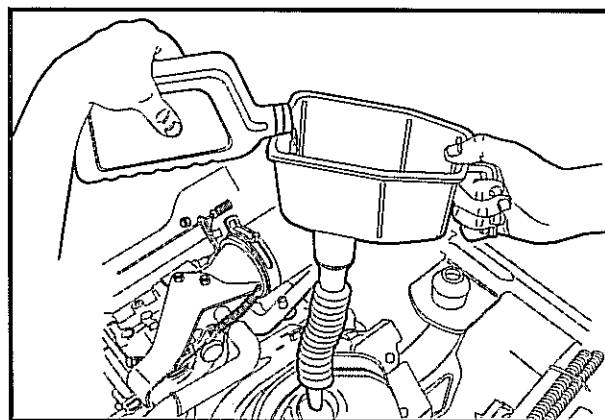
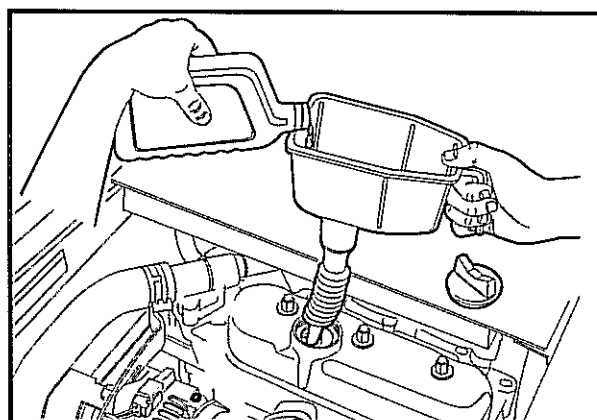
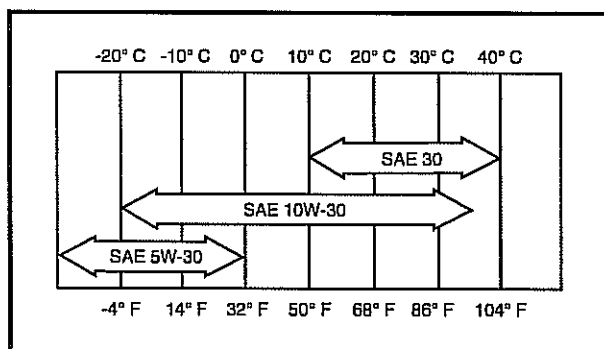
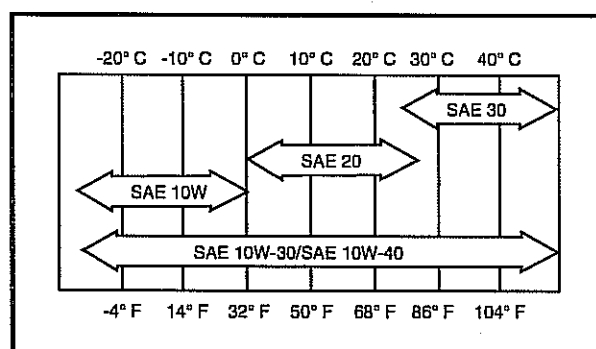

Figure 24 Add Engine Oil – Gasoline Vehicles
Figure 25 Add Engine Oil – Diesel Vehicles
Figure 26 Oil Viscosity Chart – Gasoline Vehicles
Figure 27 Oil Viscosity Chart – Diesel Vehicles
1. Add engine oil; use a funnel or pour spout to direct the oil into the opening (**Figure 24 or Figure 25**). With filter change, the engine requires 1 qt.-25 oz. (1.7 L) of oil per change for gasoline vehicles and 3 qt. (2.8 L) for diesel vehicles. Refer to oil viscosity guidelines for selection of oil grade (**Figure 26 or Figure 27**). **See following CAUTION.**
Choose the viscosity according to the temperature as shown in the appropriate oil viscosity chart (**Figure 26 or Figure 27**). Using multi-grade oils (5W-20, 10W-30, and 10W-40) will increase oil consumption. If multi-grade oil is used, check the oil level more frequently. **See following NOTE.**